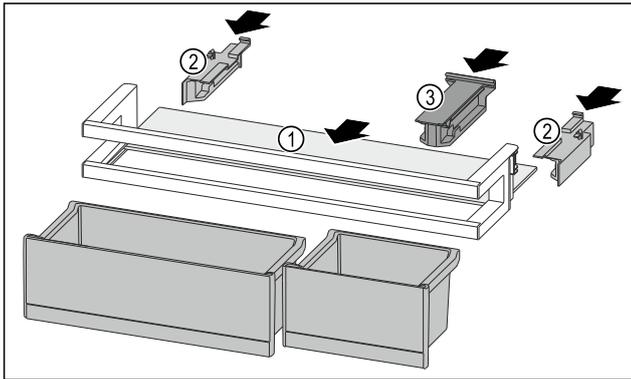

Fig. 98
- ▶ Push the shelf Fig. 98 (1) into the side recesses.
- ▶ Insert the side parts Fig. 98 (2).
- ▶ Insert the holding part Fig. 98 (3).